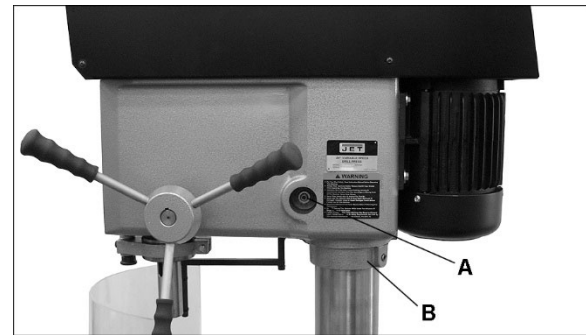

Figure 5-1
2. Loosen head locking nut (A, Figure 5-1) by turning counterclockwise with provided socket wrench.
close to column as possible. CAUTION: Do not place 2x4 under lock collar (B, Figure 5-1).
7. Securely tighten head locking nut (A, Figure 5-1). This will secure head until lock collar can be positioned. The 2x4 can now be safely removed.
8. Loosen two set screws on lock collar (B), and slide lock collar until it is flush with head. Securely tighten both set screws.